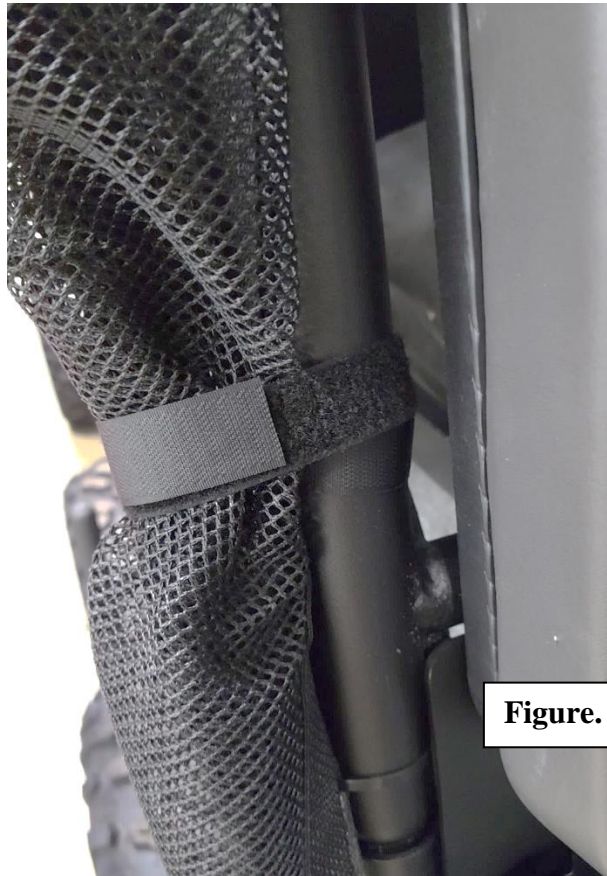

Figure. 10
6. The Velcro straps are intended to hold the net (see fig. 10) when it is not in use, but can be attached to the frame if the net is buckled and in use. Make sure to tighten all straps so there is some resistance when buckling the net.